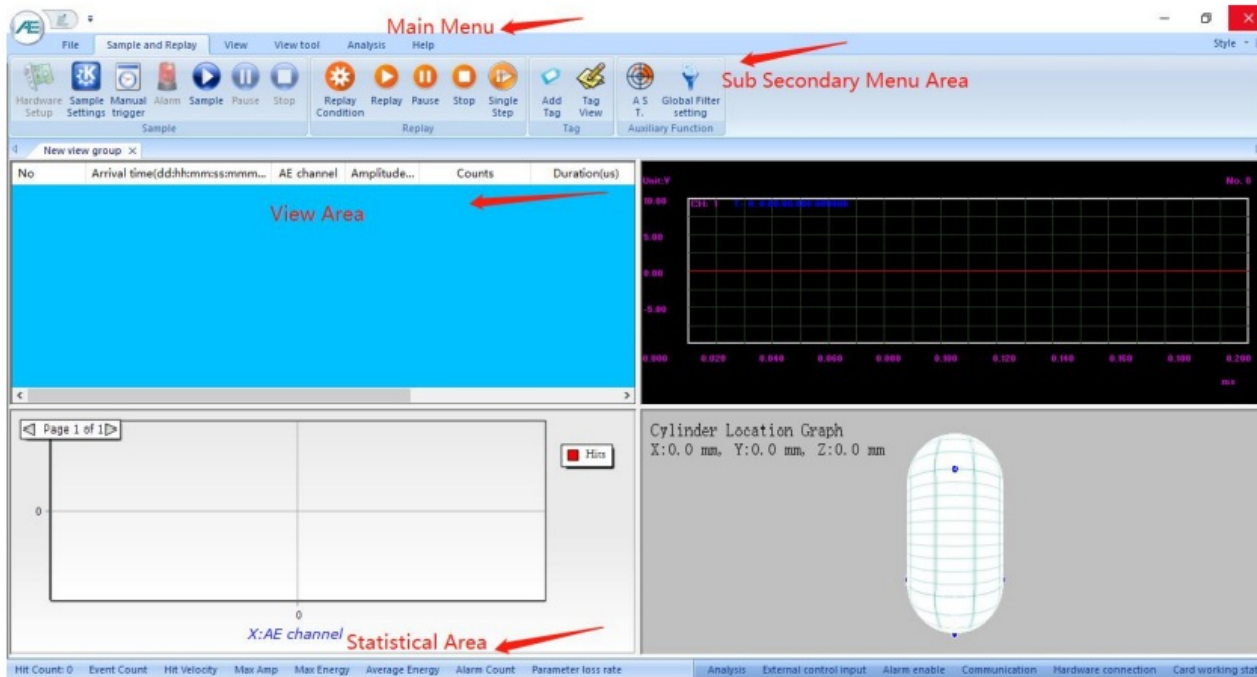

Fig. 2-1 Main Interface View Of Software
2. Double click the [SWAE] icon on the desktop to start the AE application, and then the software will load the default configuration. Refer to Fig. 2-1 for the partition of the software main interface.